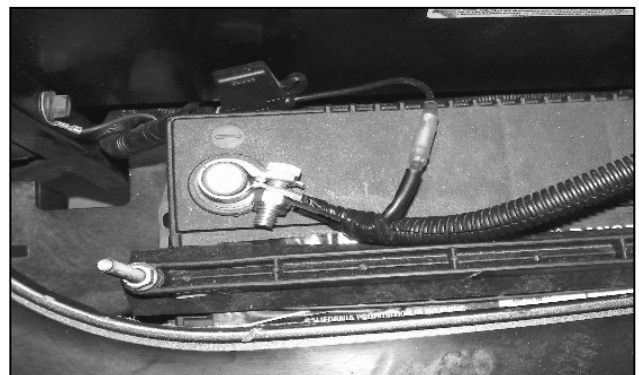

Fig. 5.4 (Ground to Battery)
- 5.4** See Figure 5.4. Connect 2 heater ring terminals and ground ring terminal on the heater relay harness to the negative terminal bolt on vehicle battery.